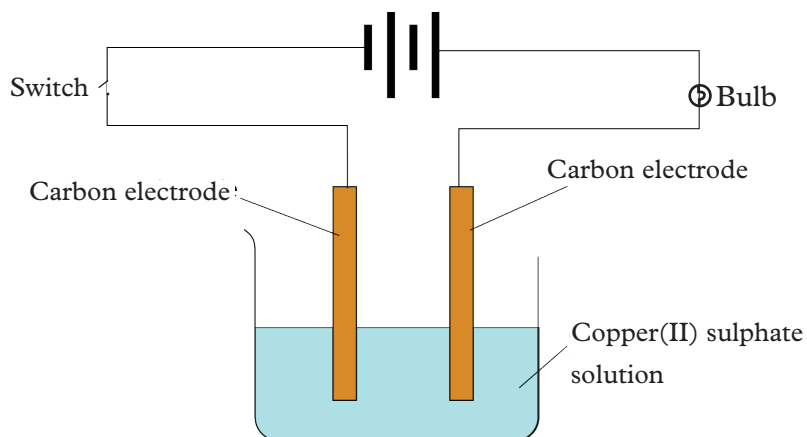

Fig. 8.6: Electrolysis of copper (II) sulphate using graphite electrodes
1. Half-fill a beaker with copper (II) sulphate solution.
2. Set up the apparatus as shown in Fig. 8.6 or 8.7.